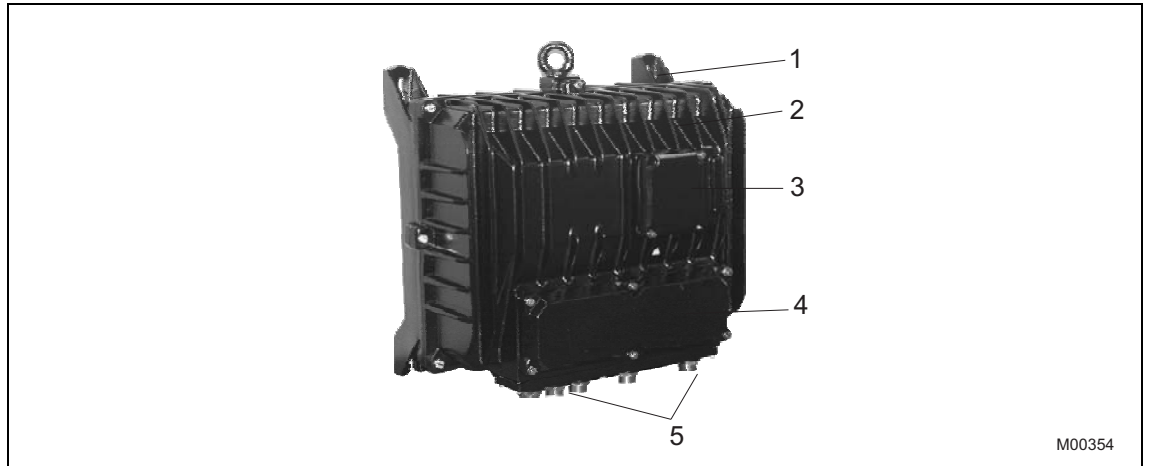

Fig. 7: EBN861
2. Unscrew and remove the cover screws (**Fig. 7**, pos. 3).
6. Unscrew and remove the hinge screw (**Fig. 7**, pos. 2).
3. Close the housing, and insert and connect the cover screws (**Fig. 7**, pos. 3).
4. Remove the cover for the connection chamber (**Fig. 7**, pos. 4).